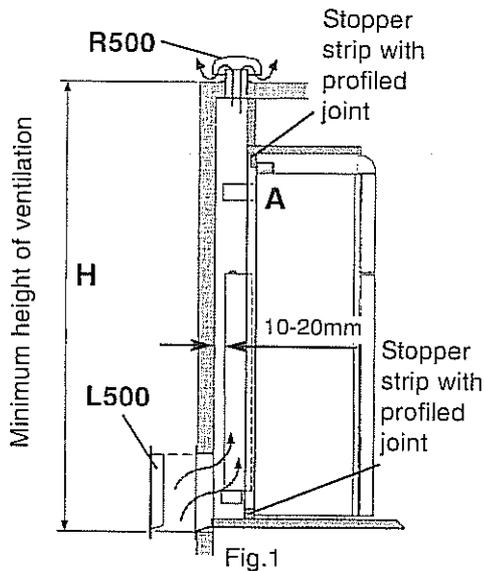
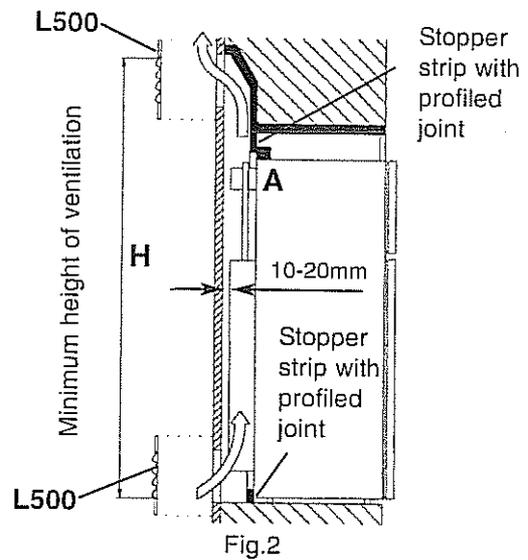

Fig.1
Fig.2
The unit is ventilated through openings in the wall or roof of the vehicle. (Fig. 1 and Fig. 2). Fresh air enters at the bottom and the warmed air flows off through the upper ventilation grille (flue effect). The side walls of the ventilation shaft should be local to avoid the build up of condensation and drafts. The parts of the shaft walls, which are situated above and next to the exhaust for the combustion gases, must be made of non combustable material. The upper ventilation grille should be positioned as high as possible above condenser (A) (**observe minimum ventilation heights**). The lower ventilation grille should be **flush with the floor of the vehicle**, allowing any gas leakages (heavier than air) to escape directly into the open air. If such an arrangement is not possible a hole must be provided by the manufacturer of the vehicle under the refrigerator (not close to the burner) so that any leaking LP gas can escape. This must have an effective area of at least 13cm2. It is desirable to fit the hole with wire mesh or similar, and an angle plate to protect it from stones, mud etc., the wire mesh must not reduce the effective area of 13cm2 (EN1949). **The ventilation grilles must have a free cross section of at least 400cm2.** Here it should be noted that protective insect nets behind the ventilation grilles can reduce the free cross section by up to 50%.